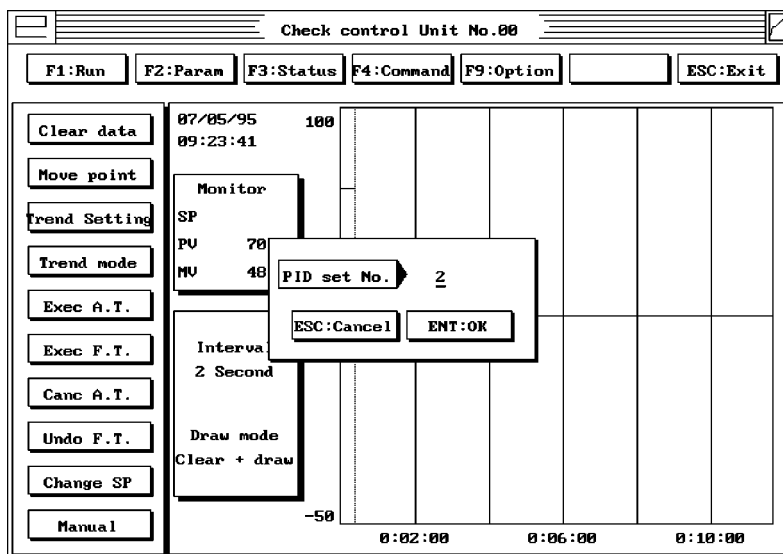

Figure 14
6. A new pop-up window will appear (Figure 14). Enter the number of the PID bank you wish to Autotune.